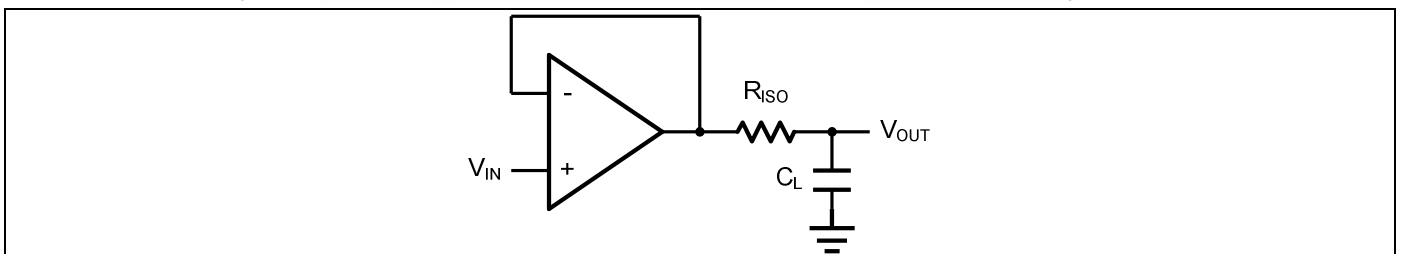
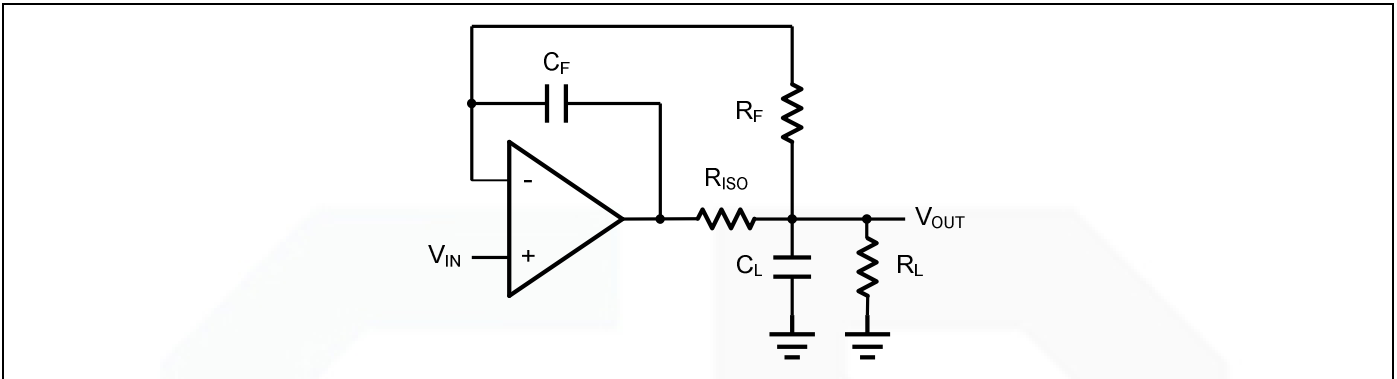

Figure 2. Indirectly Driving a Capacitive Load Using Isolation Resistor
Figure 3. Indirectly Driving a Capacitive Load with DC Accuracy
The GS859x family is optimized for bandwidth and speed, not for driving capacitive loads. Output capacitance will create a pole in the amplifier's feedback path, leading to excessive peaking and potential oscillation. If dealing with load capacitance is a requirement of the application, the two strategies to consider are (1) using a small resistor in series with the amplifier's output and the load capacitance and (2) reducing the bandwidth of the amplifier's feedback loop by increasing the overall noise gain. Figure 2. shows a unity gain follower using the series resistor strategy. The resistor isolates the output from the capacitance and, more importantly, creates a zero in the feedback path that compensates for the pole created by the output capacitance.
The circuit in Figure 3 is an improvement to the one in Figure 2.  $R_F$  provides the DC accuracy by feed-forward the  $V_{IN}$  to  $R_L$ .  $C_F$  and  $R_{ISO}$  serve to counteract the loss of phase margin by feeding the high frequency component of the output signal back to the amplifier's inverting input, thereby preserving the phase margin in the overall feedback loop. Capacitive drive can be increased by increasing the value of  $C_F$ . This in turn will slow down the pulse response.